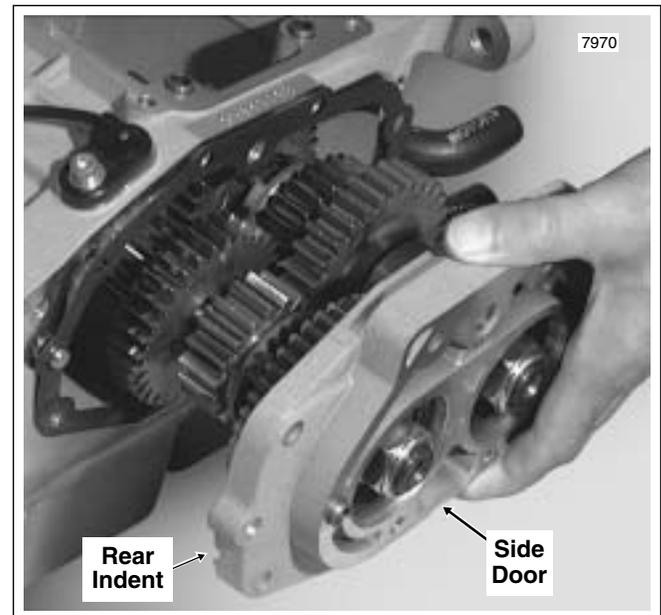

Figure 7-19. Remove Transmission Side Door
9. Remove the six socket head screws (bottom four with flat washers) to free both the side door and transmission exhaust bracket from the transmission case. Pull the side door, mainshaft and countershaft from the transmission case as a single assembly. Remove and discard the door gasket. See Figure 7-19.
DO NOT USE A HAMMER TO REMOVE THE SIDE DOOR. If the side door sticks or binds on the locating dowels, gently pry open using the indents at each side of the door. See Figure 7-19.
2. Squirt a liberal amount of clean transmission lubricant into the main drive gear to prelube needle bearings. Install the assembled side door in the transmission case. See Figure 7-19.